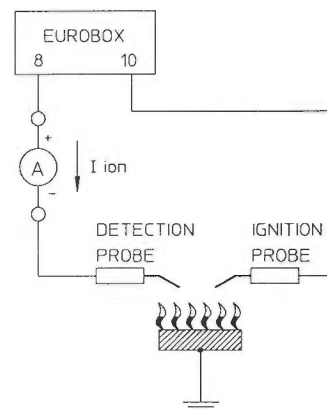

Fig.6
- the level of the flame signal is sufficient, see Fig.6 for the measuring test;